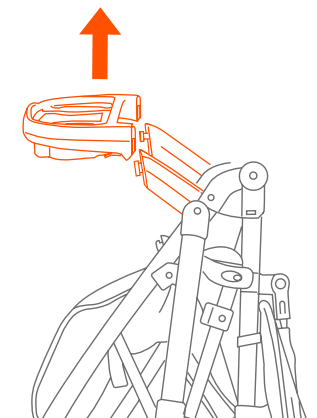

Fig. 15g
**NOTE:** You may remove the tray for a compact fold. Refer to Step 7 (Fig. 15g).